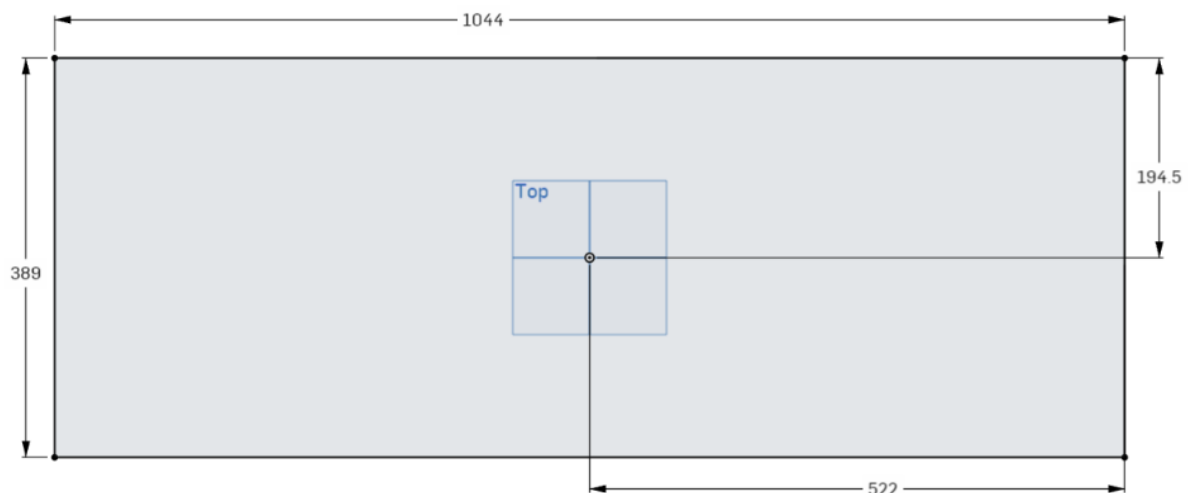

Figure 2.9: Defining body dimensions of the Ahmed body.
- 7) Use the “Dimension” tool () and click on the lines to define front dimensions of the Ahmed Body as per Appendix A with the “origin” as centre (figure 2.9).